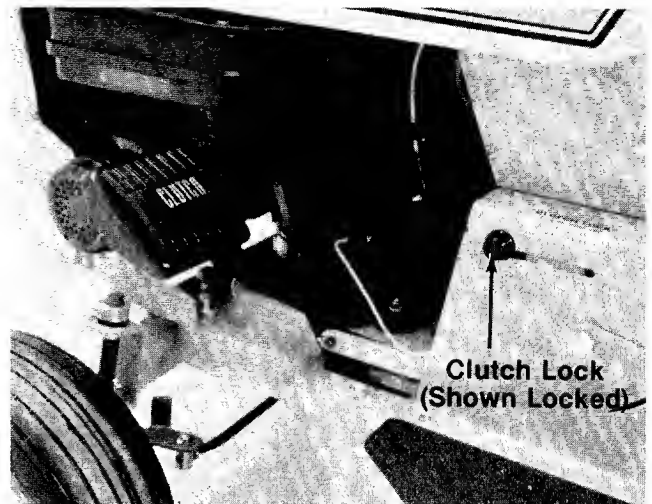

FIGURE 12.
The clutch pedal is located on the left hand side of the tractor and is operated with your left foot. Depress the pedal to disengage the drive mechanism. Release the clutch slowly to engage. The clutch and brake pedals must both be depressed when stopping the tractor. When shifting gears, the clutch pedal must be disengaged, and the tractor cannot be moving. See figure 12.
When the clutch pedal is depressed all the way it can be locked by lifting up the lock button. The pedal will stay depressed. To release, depress the pedal. See figure 12.
4. Depress the clutch pedal and lock it down with the clutch lock. See figure 12.